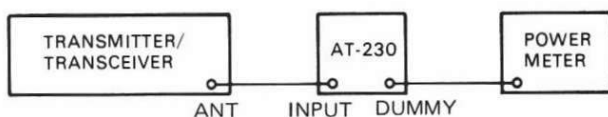

Fig. 1
- Connect as in Fig. 1.
As in Fig. 1.